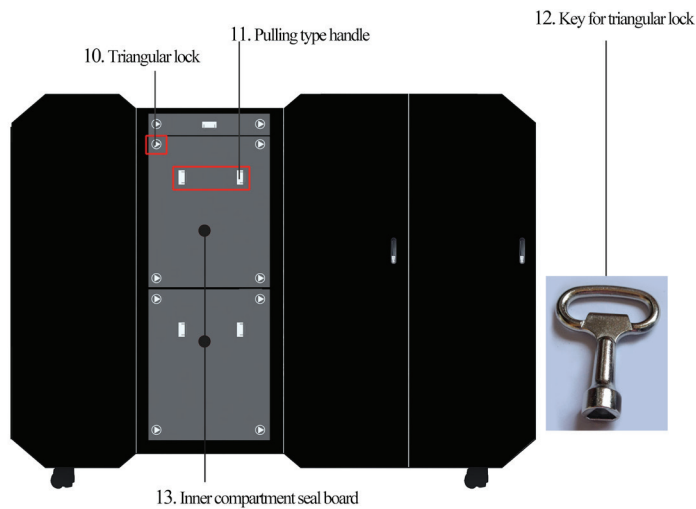

Figure-17
As is shown in Figure-17, insert the special key 12 of triangular lock (the key is stored in the special tool box) into the triangular lock 10, turn the lock core to open the inner compartment seal board lock, and remove the inner compartment seal board;